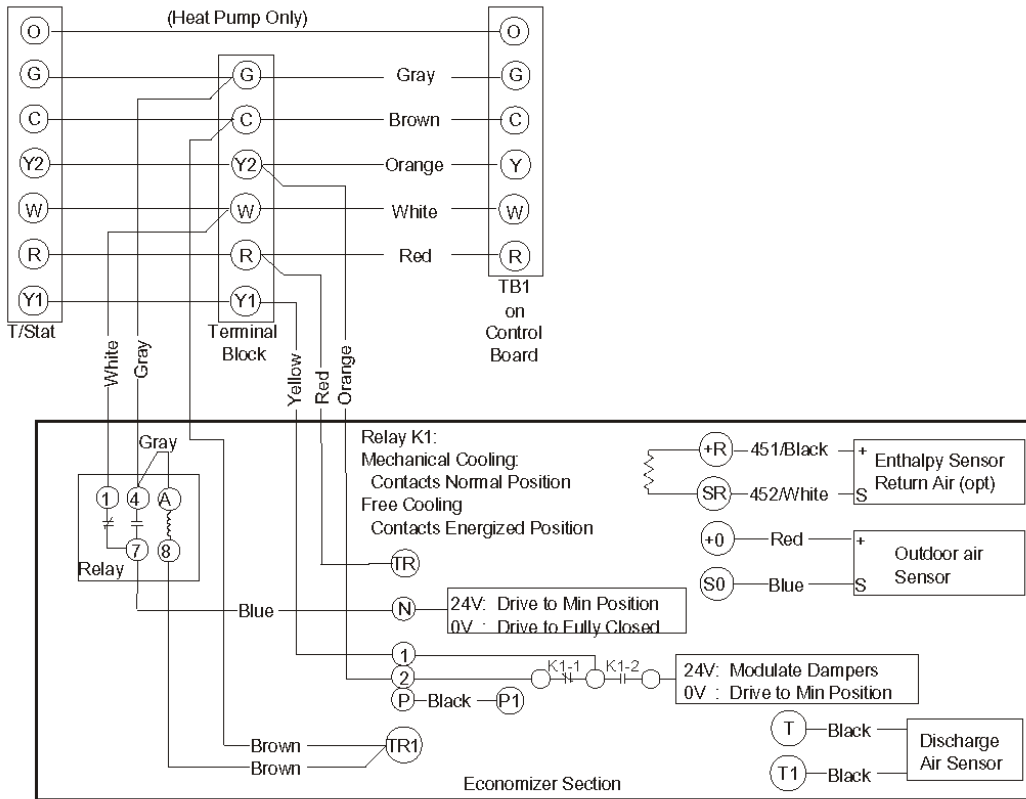

Figure 14: Wiring Connections
13. Route the wire harness from the economizer assembly through the grommet in the back of the control box. Once through the grommet route the wires behind the existing controls to the previously installed terminal block. Connect the wires to the terminal block as shown in Figure 14.
14. Connect wires from the terminal block to (TB1) on the unit control board as shown in Figure 14.
18. Route the wire harness behind the existing controls to the previously installed terminal block. Connect the wires to the terminal block as shown in Figure 14.
19. Connect the wires from the terminal block to (TB1) on the unit control board as shown in Figure 14.